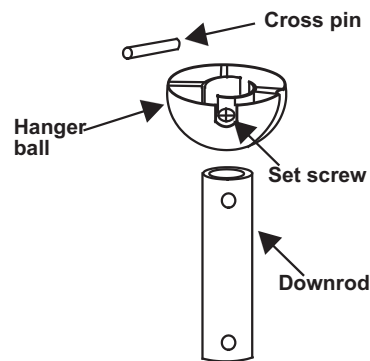

Figure 11
1. Remove the hanger ball from downrod by loosening the setscrew at the top of the downrod which holds the hanger ball to the downrod. (Fig. 11)